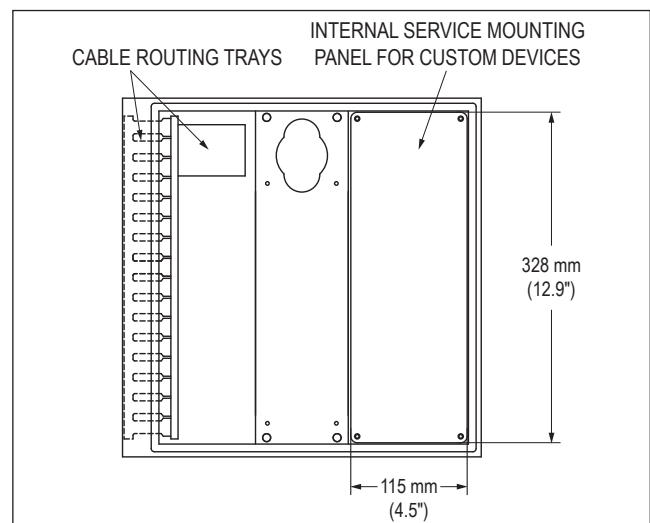

FIGURE 2 – INSIDE VIEW OF ENCLOSURE
2. Refer to Figure 2. Remove caps on Cable Routing Trays.